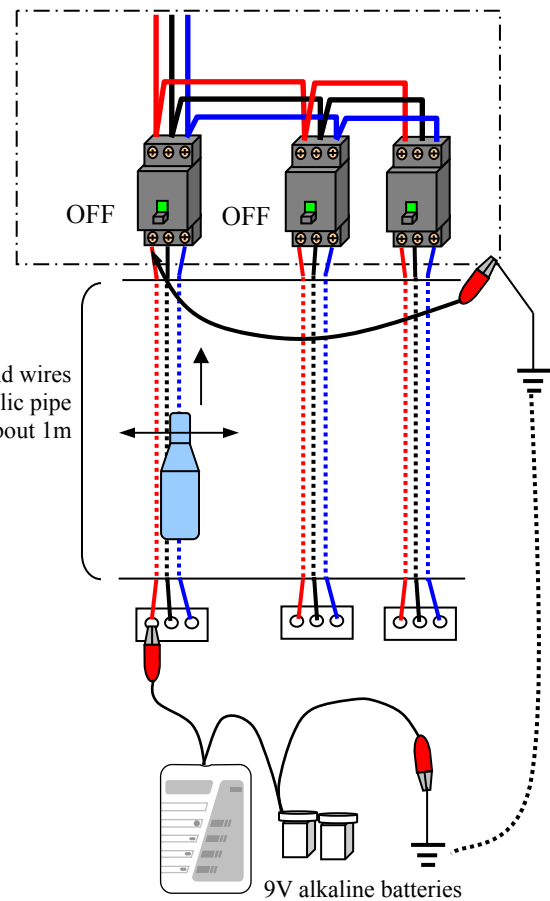

Figure 19
- When a breaker is detected at de-energized state, connect the transmitter, and then place the receiver to the connecting wire which is earthed as indicated in the Figure 19.